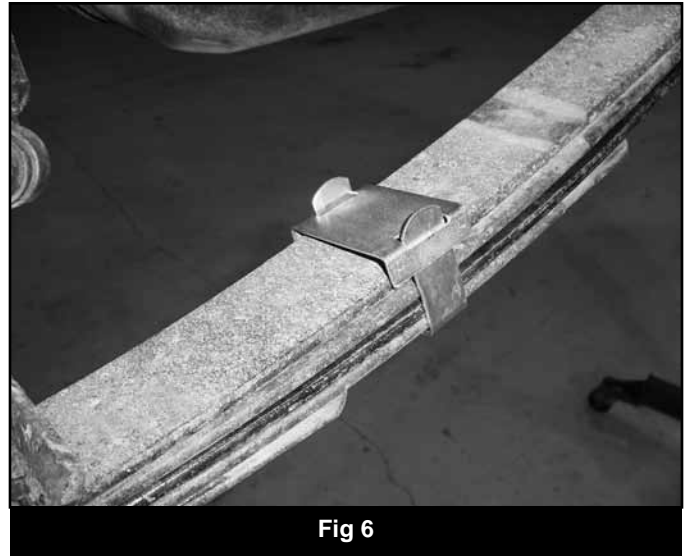

Fig 6
35. 10. Remove the C-clamps from the leaf pack and ensure the individual leaves are all in line with each other. Install the provided bend-over style clamps (HKK250) on the leaf pack (Figure 6). Install one clamp on each side of the center pin about 12" from the center pin. Bend the ends of the clamps over to secure them to the spring.